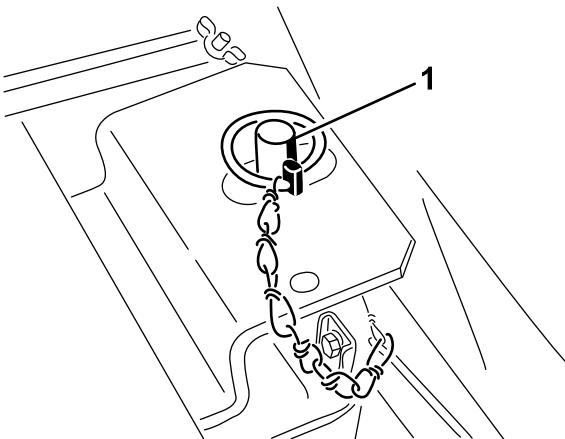

**Figure 10**
4. Hold seat up with seat support rod (Figure 10).
6. Hold seat up with seat support rod (Figure 10).